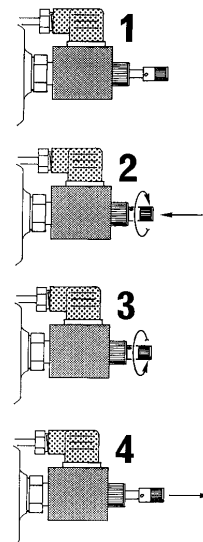

fig. 9b
(!) **When the electric power is reestablished, remember to put the button in its original position, turning it into the anti-clockwise sense.** (Fig. 9b pos.3-4)